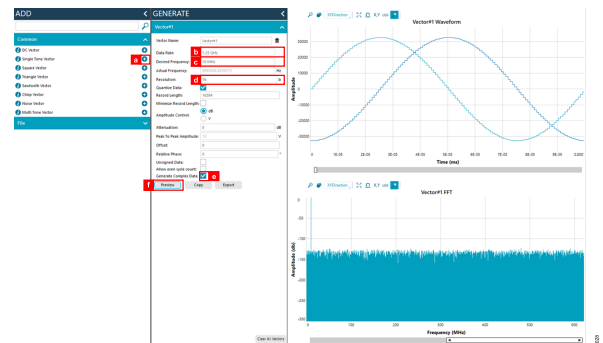

Figure 27. Generating and Previewing a Single Tone
4. Take the following steps to create a **Single Tone Vector** (see Figure 27):